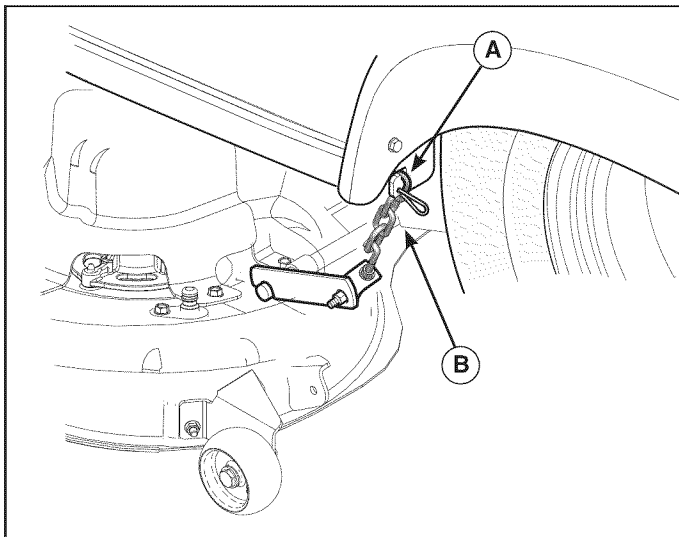

Figure 18
4. Remove the cotter pin (A, Figure 18) and lift chain (B) from the hook in tractor frame. Repeat for the other side.
6. Install the lift chain (**B**, Figure 18) onto hook in tractor frame and secure with cotter pin (**A**). Repeat for the other side.